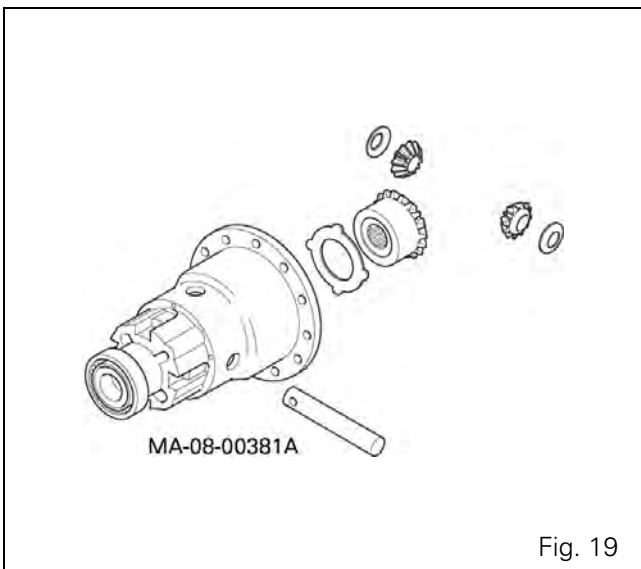

Fig. 19
24. Disassemble the planet carrier and recover the parts it contains: planet gears, thrust washers, spider, sun gear (Fig. 19).